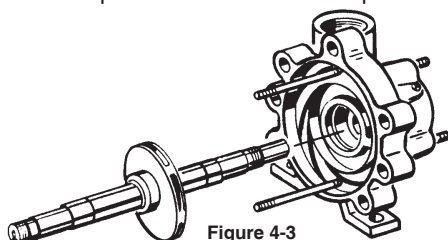

Figure 4-3
2. Next, get the shaft (#17B), two drive collars (#14B), one 3/16" key (#23) and the centrifugal impeller (#11BI). Looking at the largest diameter of the shaft, you will see a series of keyways. The drive end of the shaft has a 1" diameter and a larger 1/4" keyway; position the shaft with the drive end on your right. Now put a key (#23) into the keyway nearest the drive end (not the keyway in the drive end). Slide the impeller (#11BI) onto the shaft and position it over the key; the inlet or "eye" will be toward the drive end of the shaft. (refer to figure 4-3) Now install a drive collar into the groove in the shaft on each side of the impeller, the impeller is now locked into place.